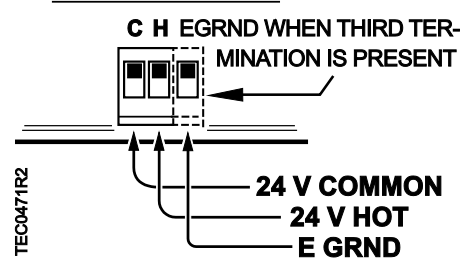

Figure 3. Power Trunk Wiring.
7. Connect the power trunk (Figure 3). DO NOT apply power to the controller without first consulting the specialist.